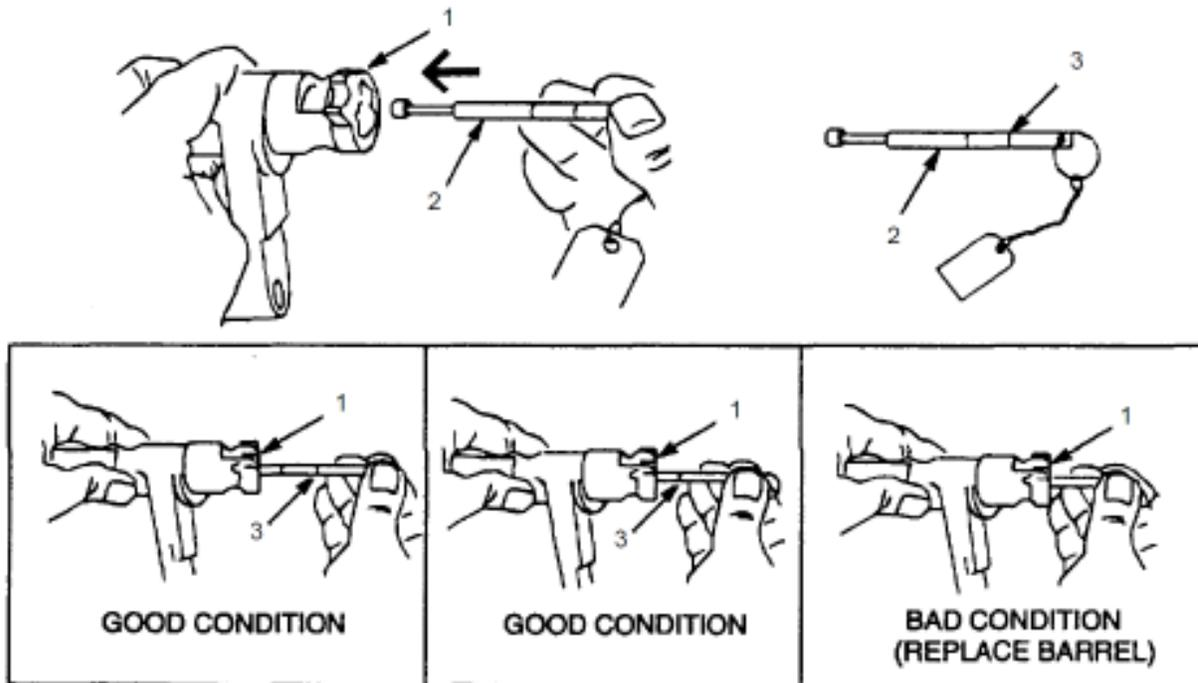

Figure 11. Insertion of Bore Erosion Gage.
- a. Insert the breech bore erosion gage (Figure 11, Item 2) as far as it will go firmly, but without forcing.
- b. There are two gage lines on the breech bore erosion gage (Figure 11, Item 2). The line farthest from the front of the gage is the "reject line" (Figure 11, Item 3). Read the gage by looking across the end of the barrel breech (Figure 11, Item 1). If the reject line (Figure 11, Item 3) on the gage enters the barrel breech (Figure 11, Item 1), the barrel is unserviceable and must be replaced.